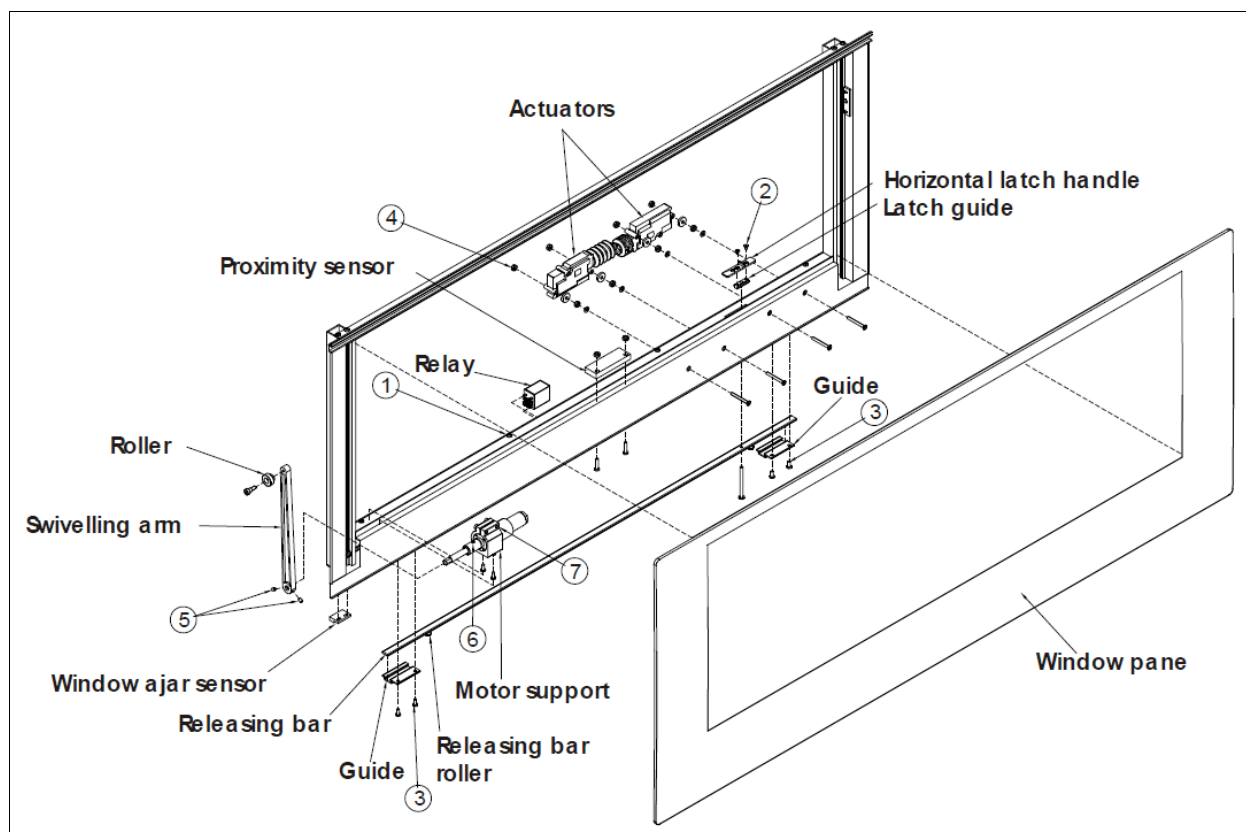

FIGURE 42: ELECTRIC AWNING WINDOW EXPLODED VIEW (SASH)
4. Loosen the set screws #5 (Figure 42) (rotate the arm to get to the second set screw) and disengage the swiveling arm from the motor shaft extension.